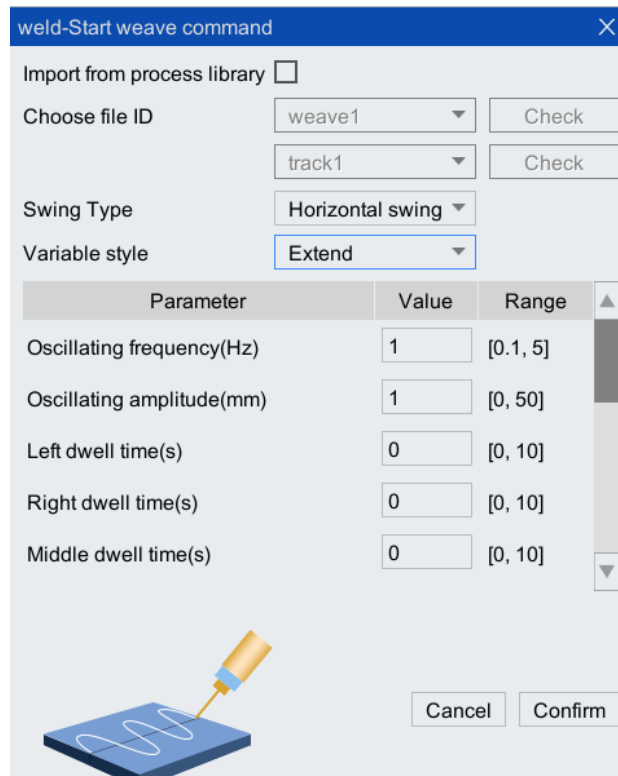
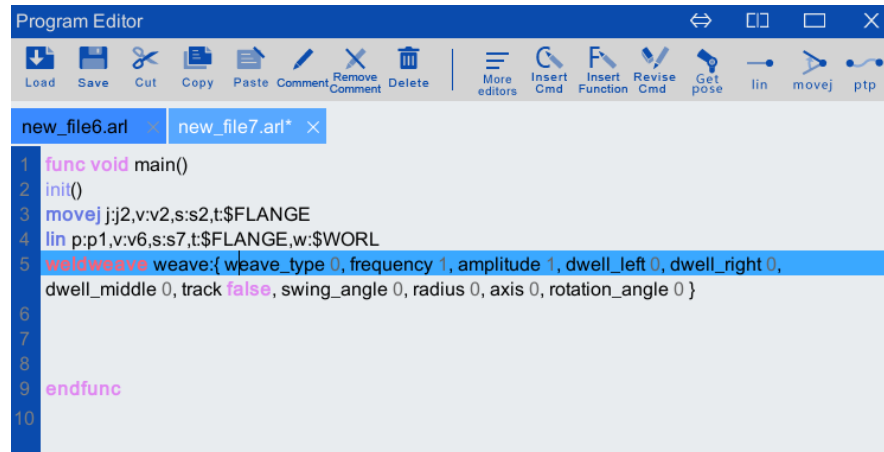

Figure 9-7 Weld-start weave command interface
Figure 9-8 Generate weave command
Step4. Complete the parameter configuration on the pop-up [weld- Start weave command] interface (as shown in Figure 9-7), and click <Confirm>. A start weave command is automatically generated. As shown in Figure 9-8.